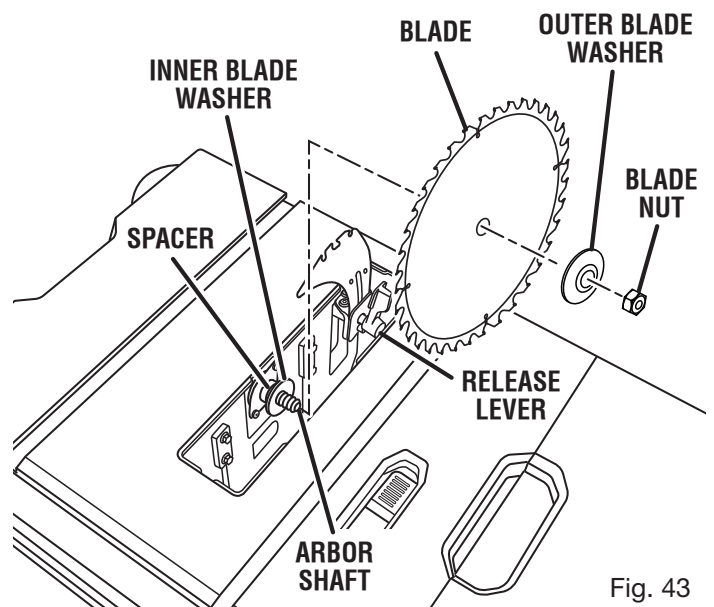

Fig. 43
- Remove the blade nut, outer blade washer, saw blade, inner blade washer, and spacer (see figure 43).